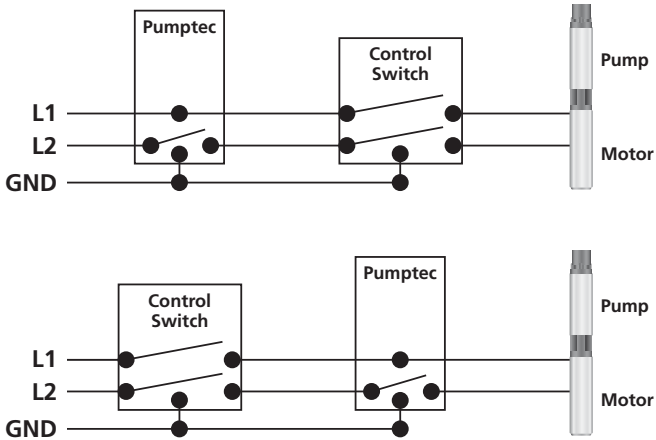

Figure 2A: 2-Wire Motor Installation Options
5. Pumptec may be wired upstream or downstream of the control switch for 2-wire and 3-wire motors. Select an installation option from figures 2A and 2B.